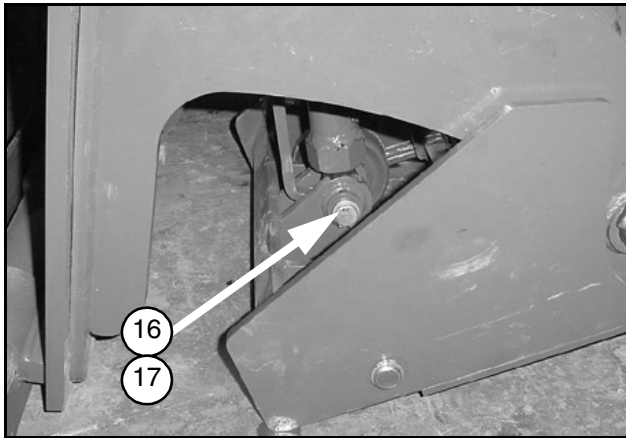

Figure 30.
12. Install the lower depth jack pin (16) and the snap ring (17) as shown in Figure 30.